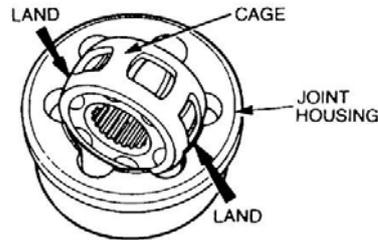

Figure 277 Removal of the Constant Velocity Joint Cage
- d. Swivel the cage to line up with the axis of the constant velocity joint (Figure 277), turn the cage until two opposite windows line up with two lands of the joint housing and then remove the cage.
- Position the cage on the constant velocity joint (Figure 277) and line up two opposite windows with two opposite lands, then fit the cage.